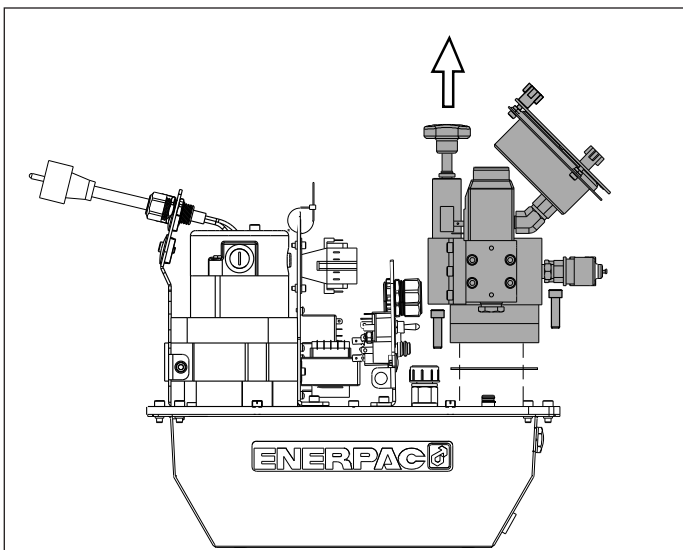

Figure 3, Removing Old Valve
1. Disconnect pump power cord from electrical outlet. Be sure pressure gauge indicates zero (0) psi/bar.
3. Remove capscrews and old control valve. Remove and discard old valve gasket. See Figure 3.